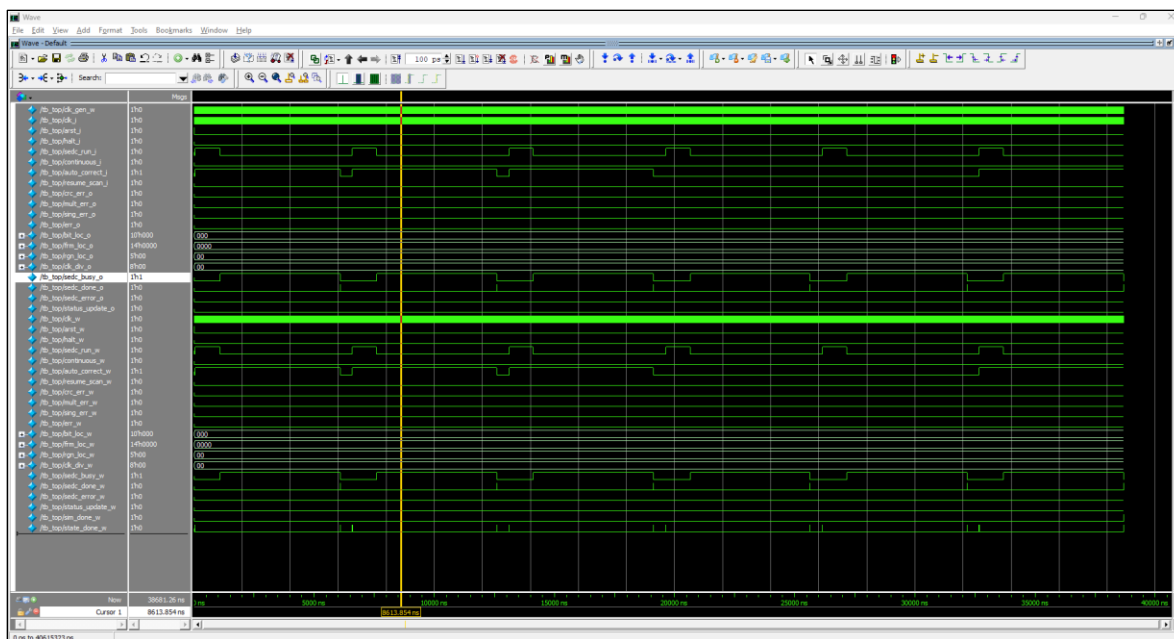

Figure 5.8. Simulation Waveform
- Click **Finish** to run the simulation. The waveform in Figure 5.8 shows an example simulation result.